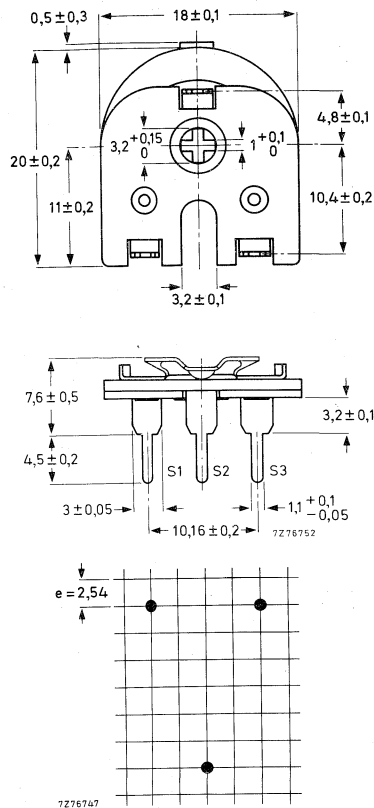

Fig.5 Potentiometer 2322 411 033..
- Potentiometers 2322 411 .33..** provided with pins, for horizontal mounting on printed-wiring boards (Fig.5).